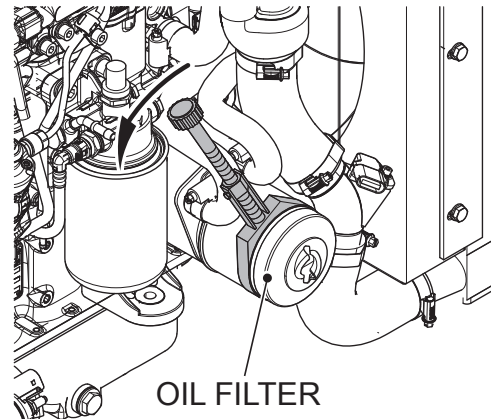

Figure 25. Removing Oil Filter
1. Loosen the oil filter (Figure 25) with a strap wrench or similar tool and unscrew it.